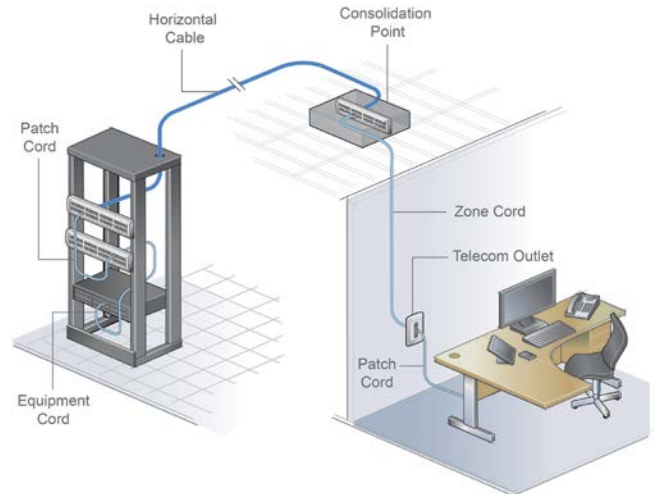

Figure 2: An example of zone cabling and the CP connection to the patch panel
An alternative horizontal distribution strategy, known as zone cabling, utilizes cable runs from the floor-serving TR to specific building zones or “service areas.” A consolidation point (CP) within each service area establishes a permanent intermediate connection, with fixed cabling installed between the TR and CP. Zone cords provide wired connectivity from the CP to the TO for each required service, device or application, as shown in Figure 2.